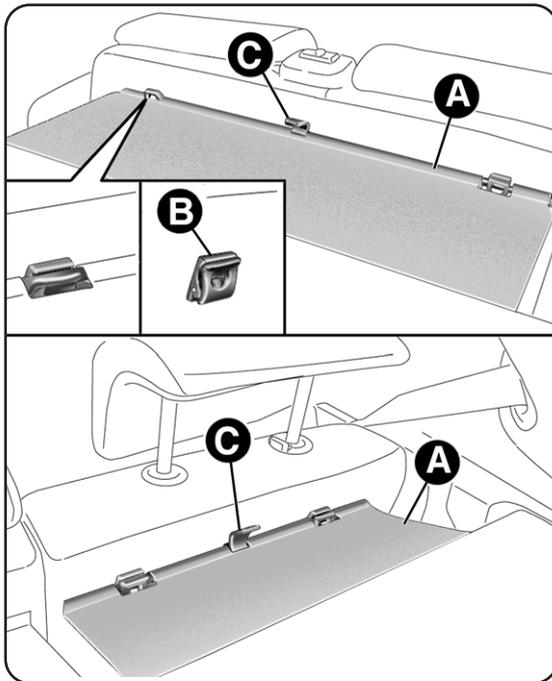

fig. 60
- release the curtains of the parcel shelf A - fig. 60 from the attachments B on the rear seat backrests;